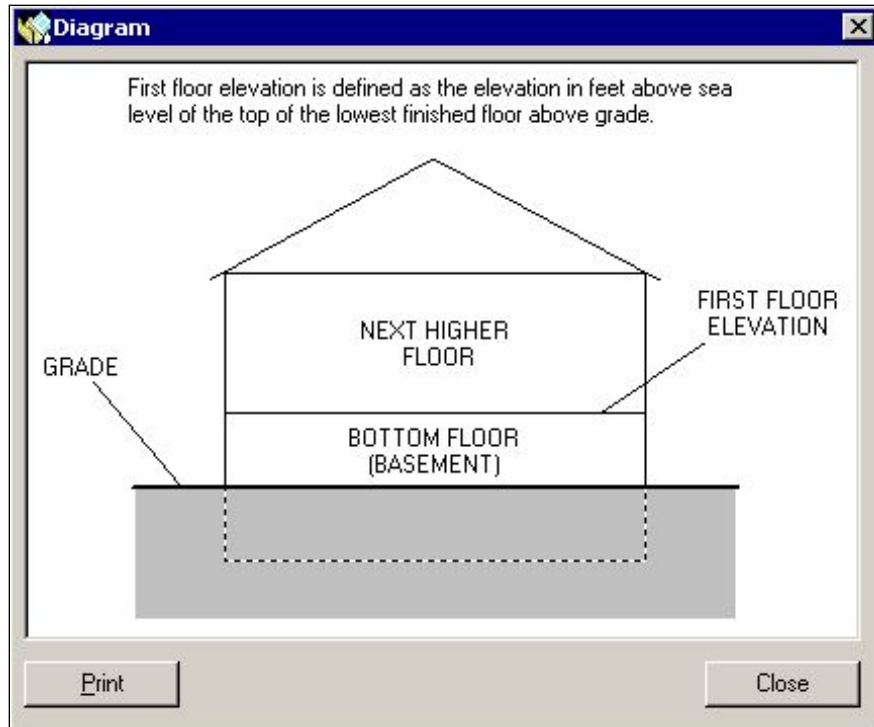

Figure 6-92: First Floor Elevation Diagram
- b. To see an illustration of First Floor Elevation (Figure 6-92), click the DIAGRAM button.